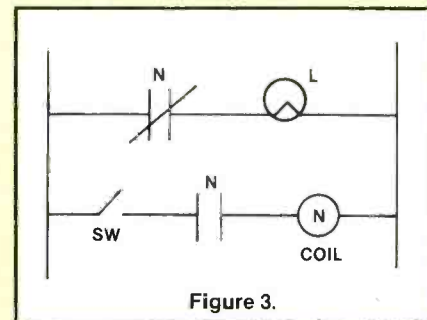

Figure 3.
7. Refer to the ladder diagram of Figure 3. The lamp (L) is